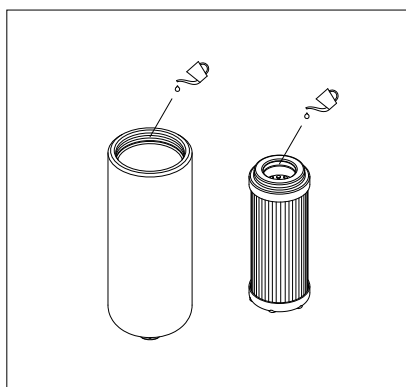

fig. 3
- (Fig. 3) Lubricate with the operating fluid the thread of the bowl and the filter element O-ring